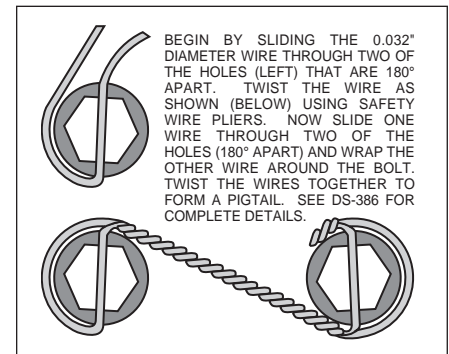

Figure 3. Safety Wire Diagram
- With the larger I.D. side of the rotor (7) facing away from the hat (8), attach rotor (7) to hat (8) using washers (9) and bolts (10) as shown in Figure 1. Using an alternating sequence, remove bolts (10) one at a time, apply red *Loctite*® 271 to the threads, and torque to 120-144 **in-lb**. Safety wire bolts (10) using standard 0.032 inch diameter stainless steel safety wire as shown in Figure 3. Please refer to Wilwood’s data sheet DS-386 (available at [www.wilwood.com/pdf/ds386.pdf](http://www.wilwood.com/pdf/ds386.pdf)) for complete safety wire installation instructions. Slide the rotor/hat assembly onto the axle hub. Install three wheel bolts (finger tighten) to keep the rotor/hat assembly in place while continuing with the installation.
- NOTE:** Please reference the caution statement at the beginning of the assembly instructions. Install one washer (14) over each pre-installed stud (15) on the radial mount bracket (1). Slide the caliper (11) in place over the studs and rotors and install the washer (13) and lock nut (12) to hold the caliper in place. Snug the lock nuts (12) and check that the rotor (7) is centered in the caliper (11). Add or subtract .02" shims (5) as necessary between the caliper mounting bracket (1) and the spindle to center the caliper (11).
- Remove the caliper quick-clip pad retainer from the caliper. Slide the brake pads (16) into place. They should install easily without interference. Check that the outside radius of the brake pad is aligned with the outside diameter radius of the rotor face. Add or subtract shims (14) between the caliper and mount bracket to gain the proper alignment. Reinstall the quick-clip pad retainer.
- Once all clearances have been checked, remove the wheel, caliper, hat, and rotor from the spindle and hub. Secure the caliper mounting bracket (1) to the spindle with bolt (3) using red *Loctite*® 271. Torque the bolts to 75 ft-lbs. Reinstall the hat and rotor assembly and again use several wheel bolts to hold it in place. Lubricate caliper mounting studs and nuts with lightweight oil, reinstall the caliper, torque the caliper nuts (12) to 30-35 ft-lb.